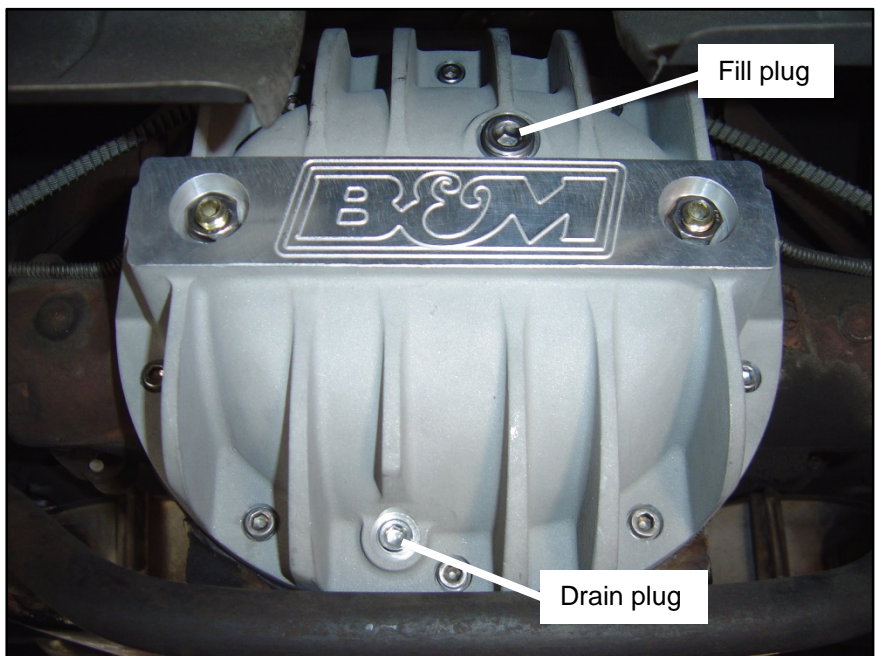

Figure 5
STEP 16. Install the supplied magnetic 1/4" NPTF drain plug on the B&M Cast Aluminum Rear End Cover and tighten (See Figure 5).
B&M Cast Aluminum Rear End Cover fill plug hole (See Figure 5). Add gear oil until oil runs out of the axle housing fill hole.